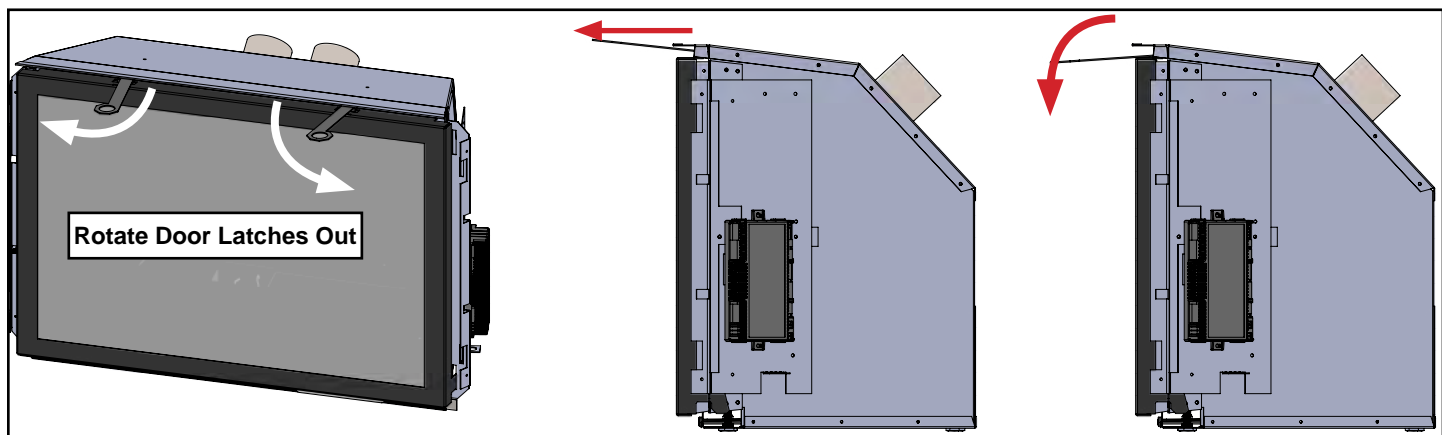

Figure 15.1.02:
2. Hold the door in place. Pull and lift the door latches. Hook them into the door frame to secure it in place (see **Figure 15.1.02**).